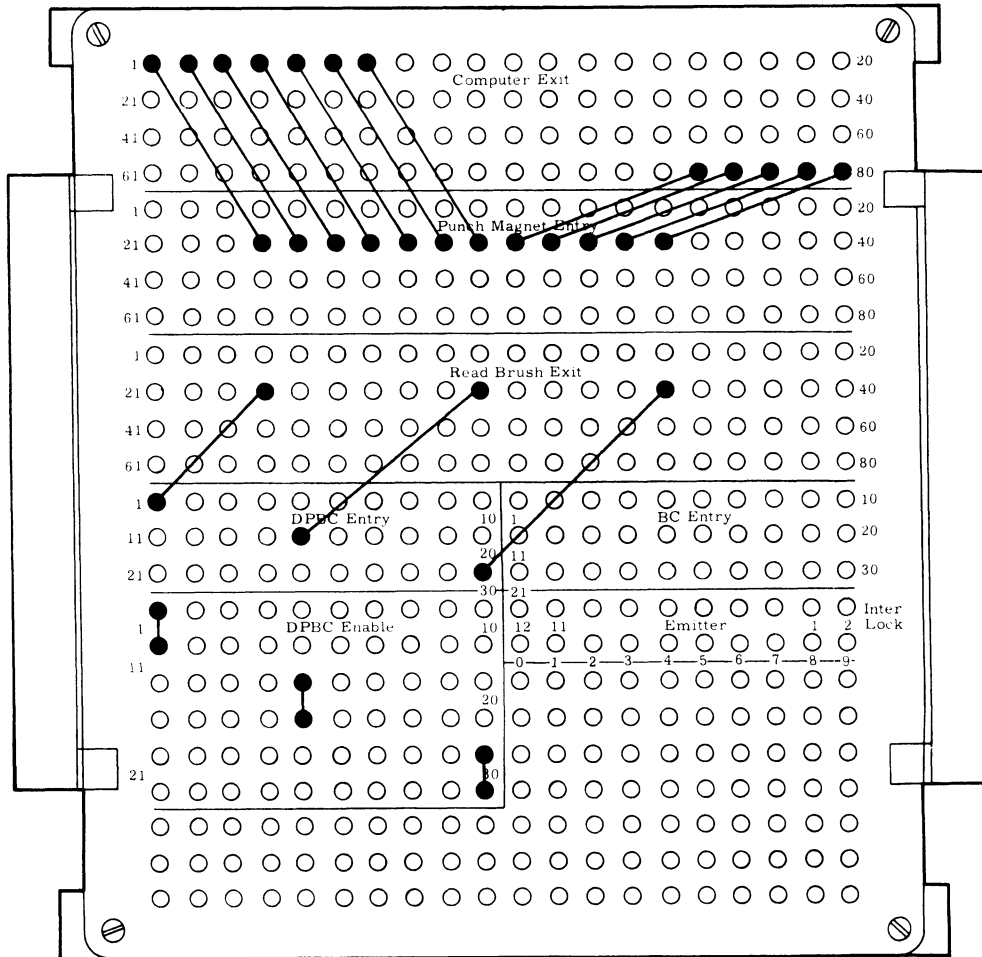

Figure 41. Plugboard Wiring for Double Punches
5. In either mode of operation, wire from the READ BRUSH EXIT hub, whose number corresponds to the card column selected for a DPBC test, to any of DPBC ENTRY hubs and also wire together the corresponding pair of DPBC ENABLE hubs. Figure 41 illustrates the wiring to check card columns 24, 30, and 35 for double punches.